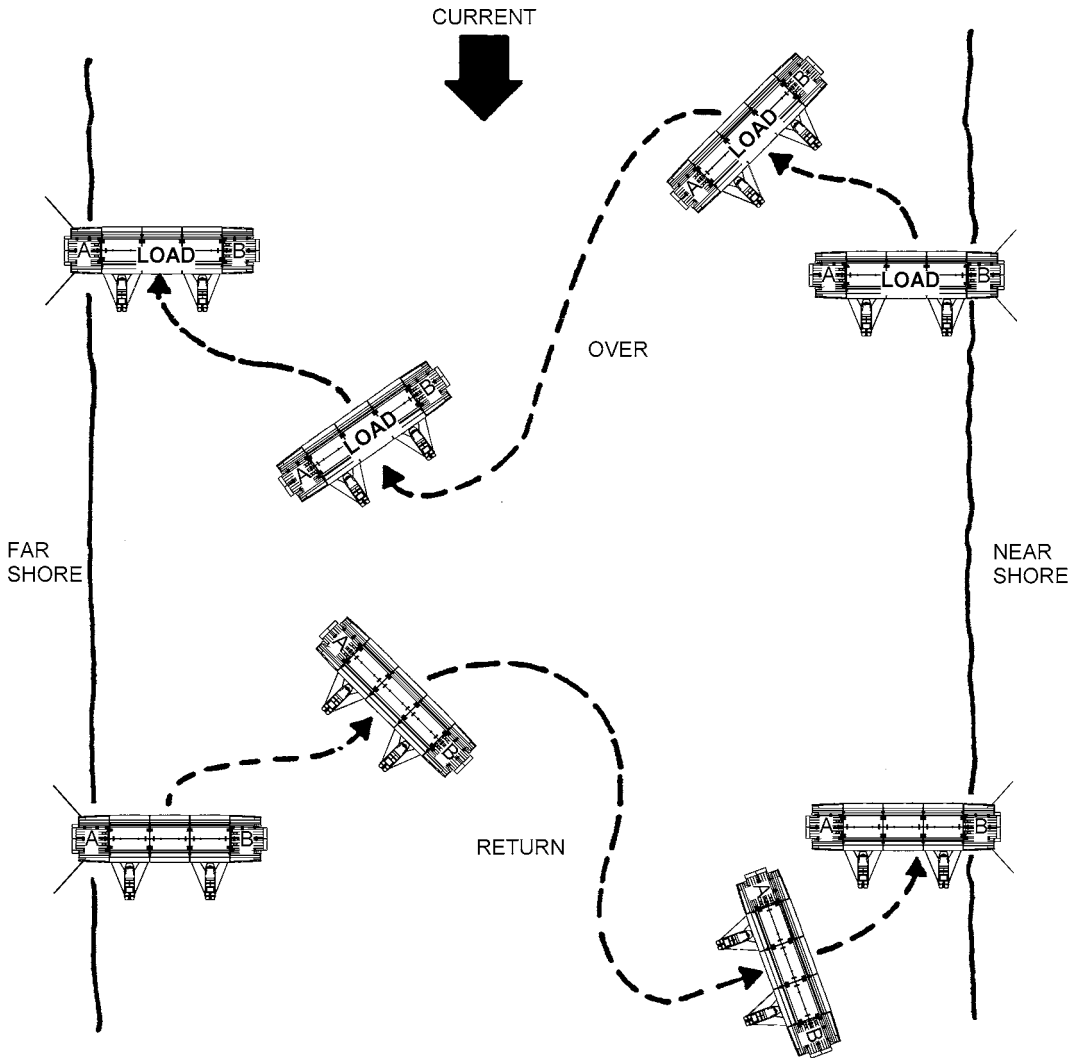

Figure 1. Conventional Rafting Procedures.
8. The number of Mk I/II BEBs required for each raft size and current speed is denoted by the number after the rating. Refer to figure 1, Conventional Rafting Procedures, to determine where and how boats are attached to conventional rafts.